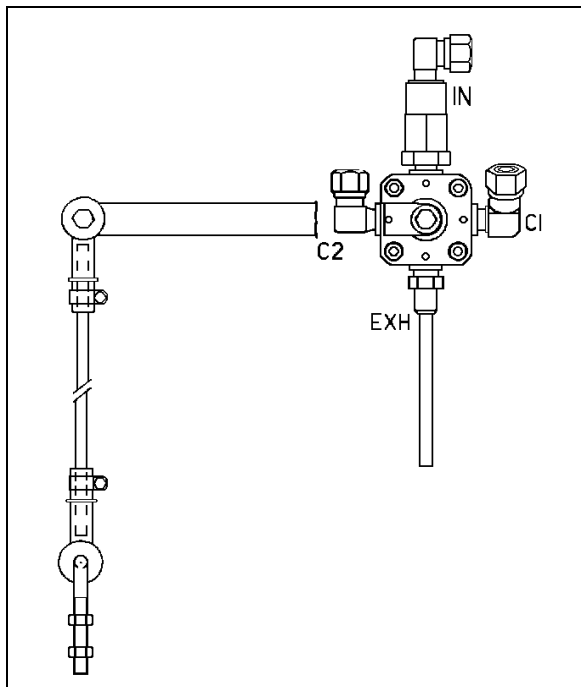

FIGURE 26: REAR HEIGHT CONTROL VALVE 16093
2. Loosen the clamp on the height control valve rubber coupling and bring it up or down (Fig. 26).